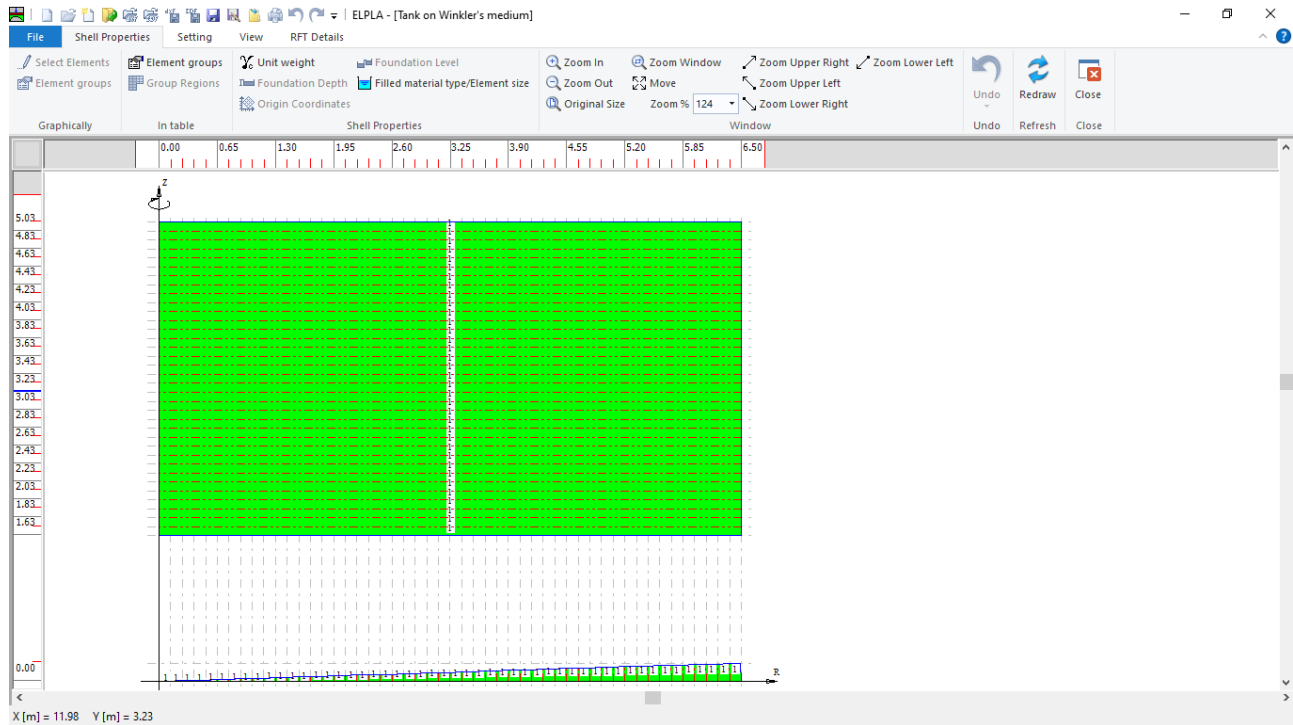
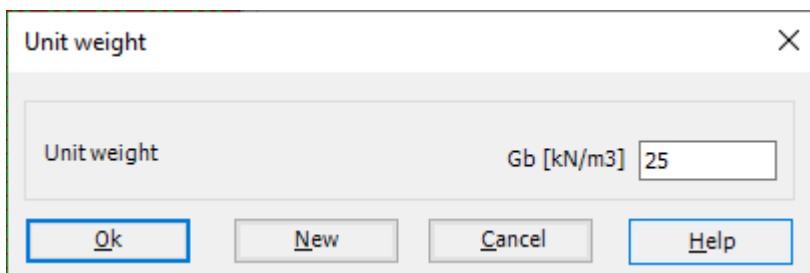

Figure 6.12 "Shell Properties" Window
Figure 6.14 "Unit weight" dialog box
To define the tank properties, choose "Shell Properties" command from "Data" Tab. The following window in Figure 6.12 appears with default shell properties. The data of shell properties for the current example, which are required to be defined, are element groups, unit weight of the tank, and filled material properties.
To enter the unit weight of the tank, choose "Unit weight" command from "Shell Properties" menu in Figure 6.12. The following dialog box in Figure 6.14 with a default unit weight of 25 [kN/m3] appears, click "OK" button.
To define the liquid properties of the shell, choose "Filled material type/Element size" command from "Shell Properties" menu in Figure 6.12. The following form in Figure 6.15 appears.
- Choose "Save" command from "File" menu in Figure 6.12 to save the shell properties
- Choose "Close" command from "File" menu in Figure 6.12 to close the "Shell properties" window and return to *ELPLA* main window